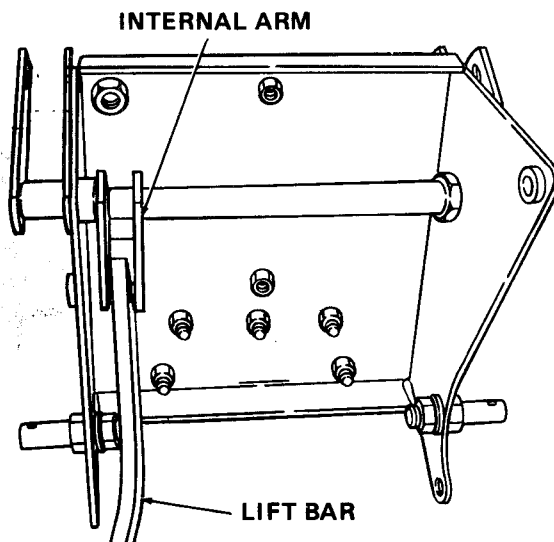

Figure B-7
- b. Place slotted end of lift bar (2) inside internal arm of 3-point hitch plate assembly. Countersunk hole at front end of lift bar should face towards front of tractor and towards right side of the frame. Refer to Figure B-7.